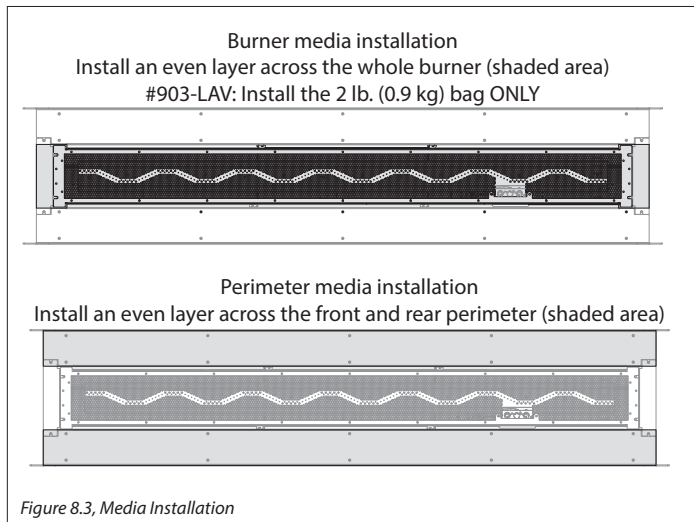

Figure 8.3, Media Installation
1. Install an even layer of your chosen media across the whole burner. See Figure 8.3 below.
1. Install an even layer of media across the front and rear perimeter. See Figure 8.3 below.